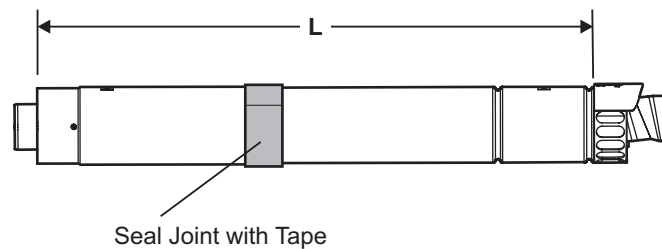

Fig. 4.7
- Determine the overall length (L) of flue required, (see Fig. 4.7) as follows:-